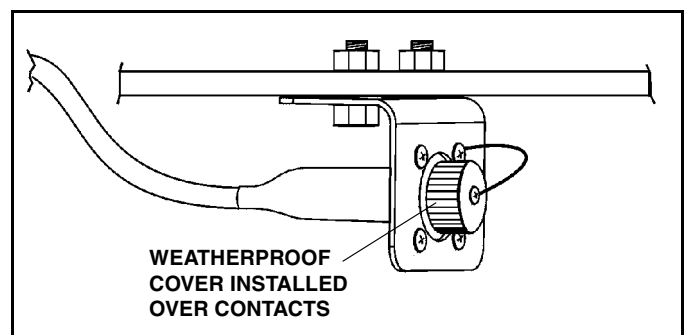

Figure 1-4
4. When operating vehicle without plow attached, install weatherproof cover onto connector to protect electrical contacts. (See Figure 1-4)